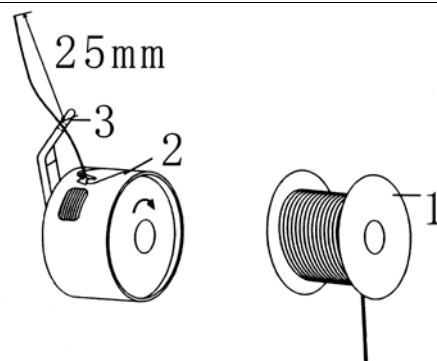

Fig. 9
- A. Put bobbin (1) into bobbin case (2) as the fig. 9 shows (the shuttle rotates in clockwise direction).
- B. Bobbin thread is led through the bobbin case spring and bobbin case hole (3)